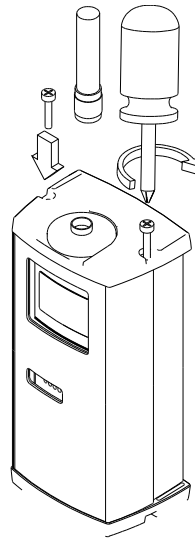

Figure 4c
Screw back the two (2) 3x16 A4-screws to attach the top cover to the SATEL-321 casing. The maximum allowable torque is 0.8 Nm (see Figure 4c). Connect the antenna.